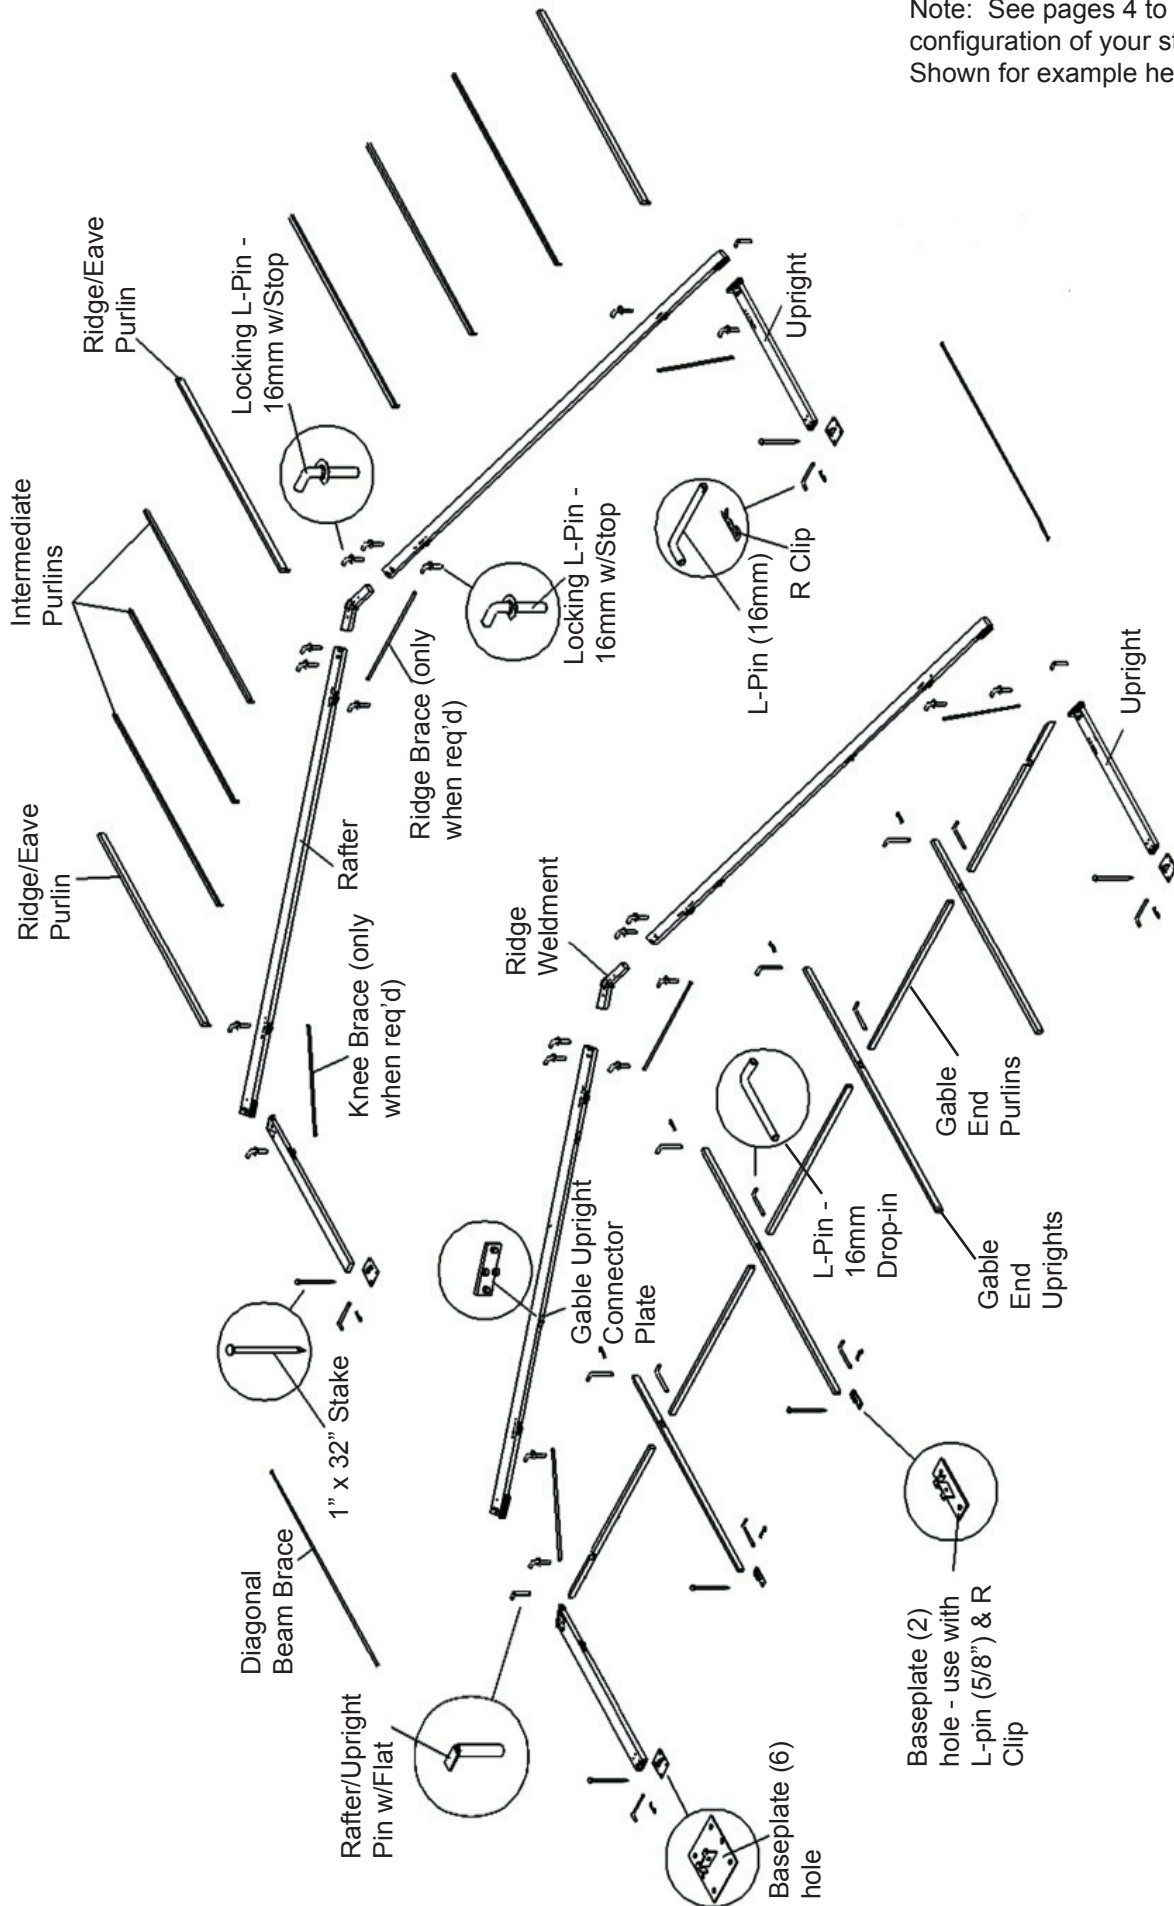

Figure 2.1
2.1 Pre-assembly of arch components: Identify and layout all components according to **Figure 2.1** for the entire structure. NOTE: Setting uprights and rafters on 4 x 4 wood blocking (or whatever blocking may be available) will make the insertion of the pins and bolts easier.
2.1.2 Identify and layout Pins with R-Clip (as required) as shown in **Figure 2.1**.